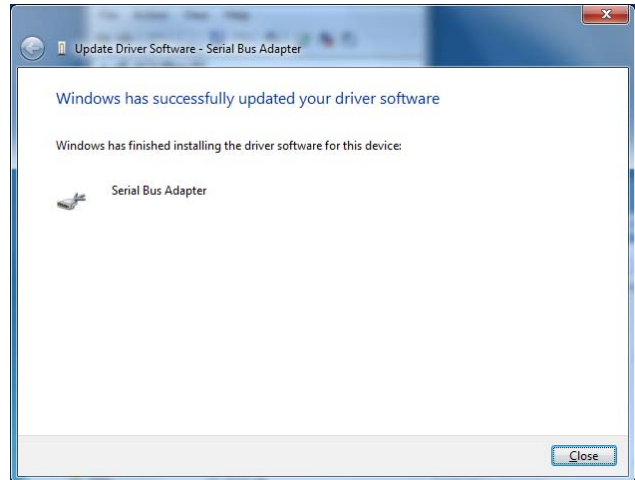

Figure 24
4. Click on “Next>”, which prompts Windows 7 to attempt the installation of the driver based on the selected folder. After a driver install, one of two screens, as shown in Figures 24 or 25 displays.